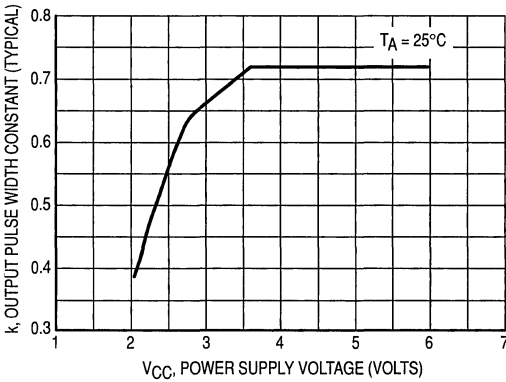

Figure 1. Typical Output Pulse Width Constant, k, versus Supply Voltage
* For output pulse widths greater than 100 μs, typically τ = kR_XC_X, where the value of k may be found in Figure 1.